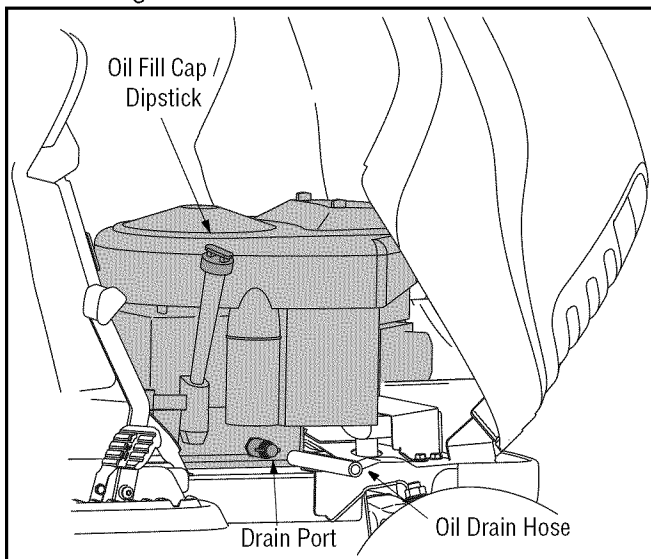

Figure 12
- Unscrew oil fill cap and remove dipstick from the oil fill tube. See Figure 12.
- Pop open the protective cap on the end of the oil drain valve to expose the drain port. See Figure 12.